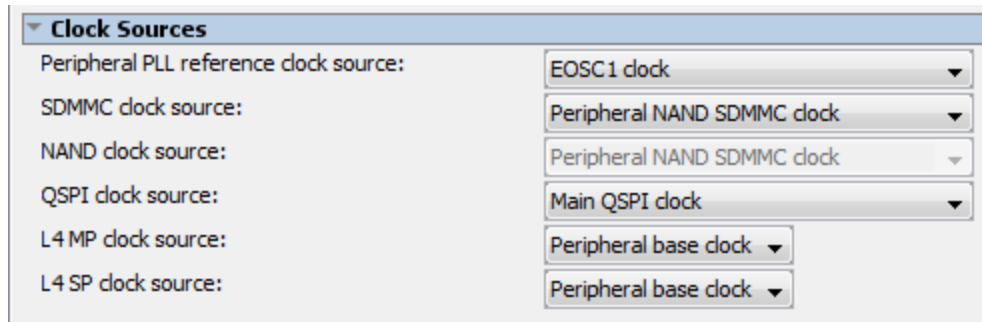

Figure 4.2.3.6
- Peripheral PLL reference clock source**: This selects the reference clock for the HPS peripherals and can be set to the: EOSC1 Clock, EOSC2 Clock, FPGA-to-HPS peripheral reference clock. EOSC1 & EOSC2 are based upon the frequency at the HPS I/O pins: HPS_CLK1 and HPS_CLK2, D25 and F25 for the Cyclone V SX 5CSXFC6D6F31C6. The FPGA-to-HPS peripheral reference clock is set under the Input tab. Please refer to Figure 4.2.3.7